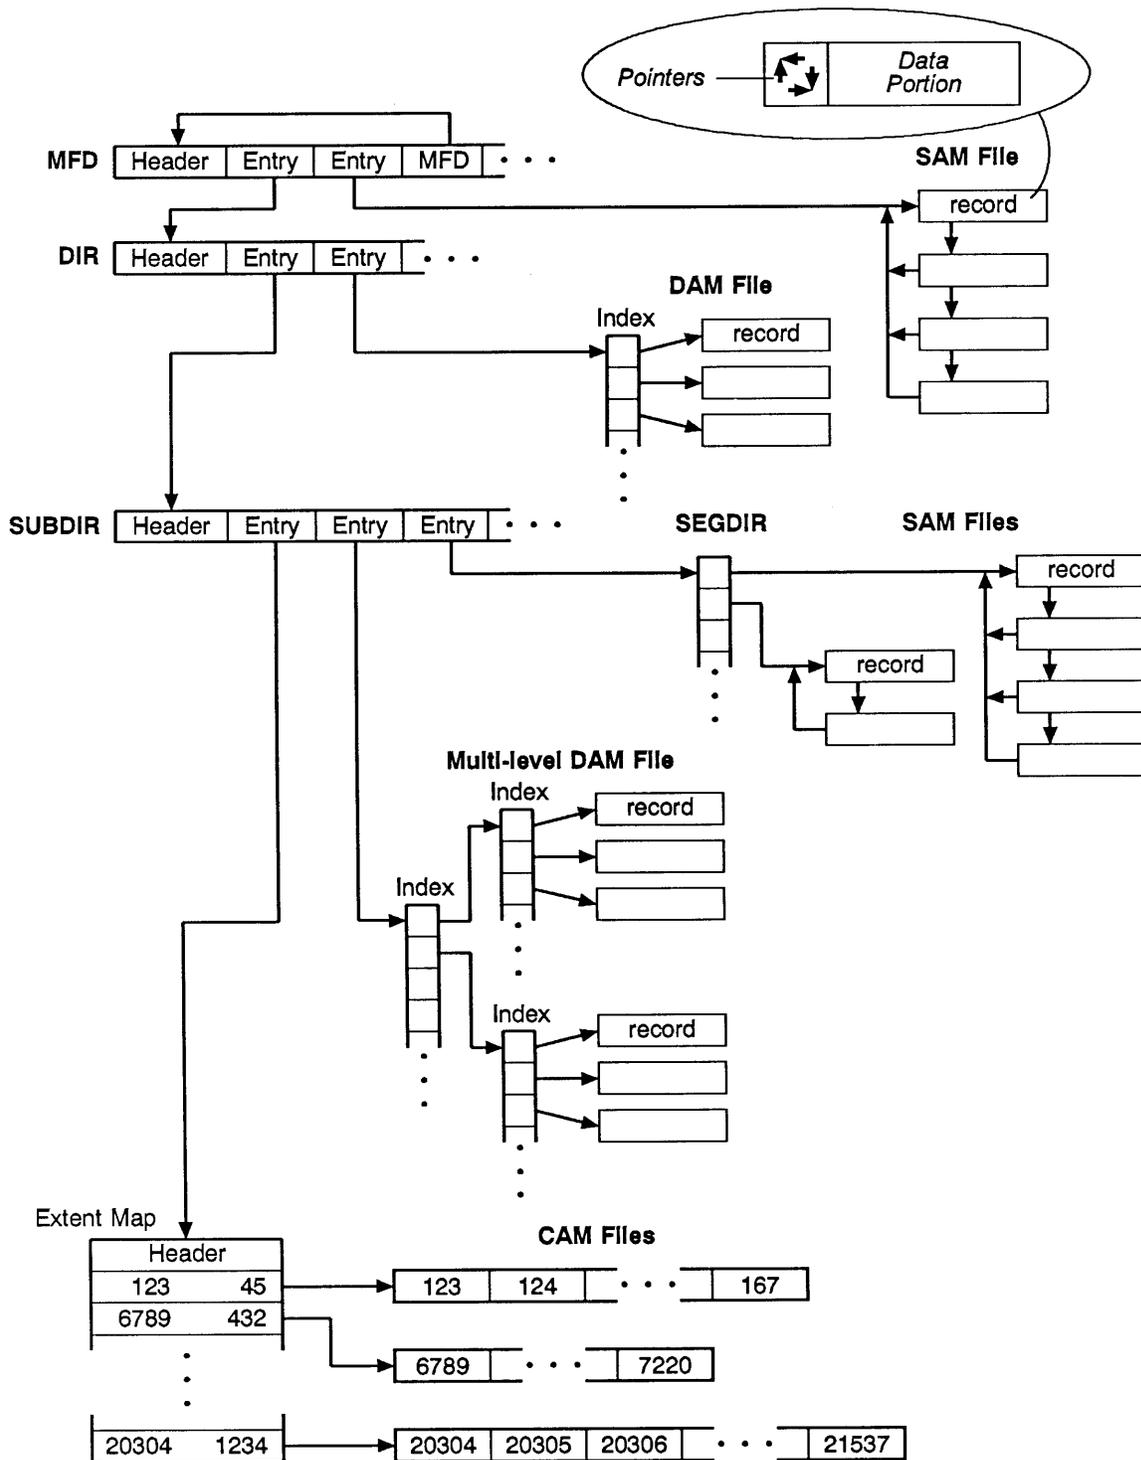

FIGURE 1-5. Relation Among File Structures
**Master File Directory (MFD):** Each disk partition contains one MFD file as an index to the first physical record of each top-level directory and file in the MFD. The MFD has the same format as any directory. The first record of the MFD begins at physical record 1 of the partition. Figure 1-5, at the end of this chapter, shows a simple schematic of the relationship among the MFD and top-level directories, subdirectories, segment directories, and SAM, DAM, and CAM files.
Figure 1-5 schematically shows the relationship among the various file system object types discussed in the preceding sections.